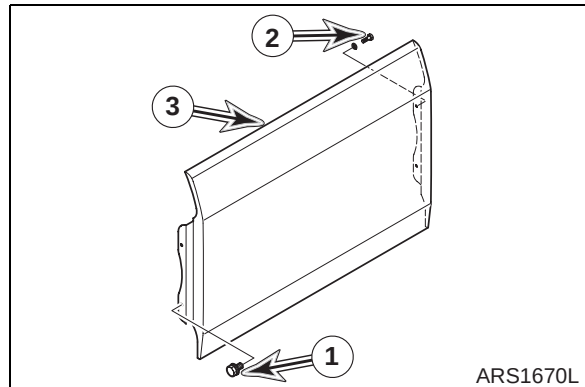

Figure 11
20. Remove four bolts (1 and 2, Figure 11) and cover (3) from fuel tank and support.